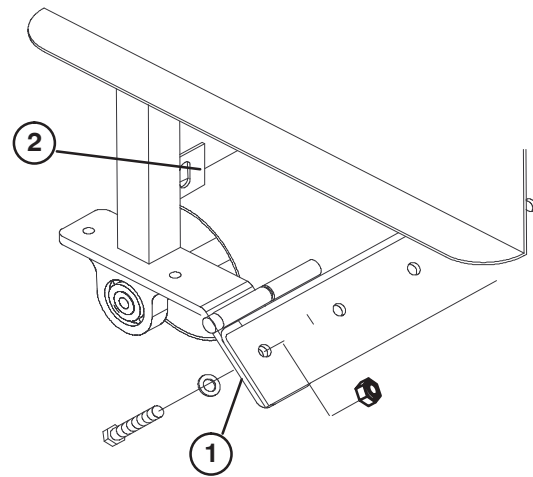

Figure 15
- A. Remove nuts securing each end of turf finger bracket to roller legs (Fig. 15).